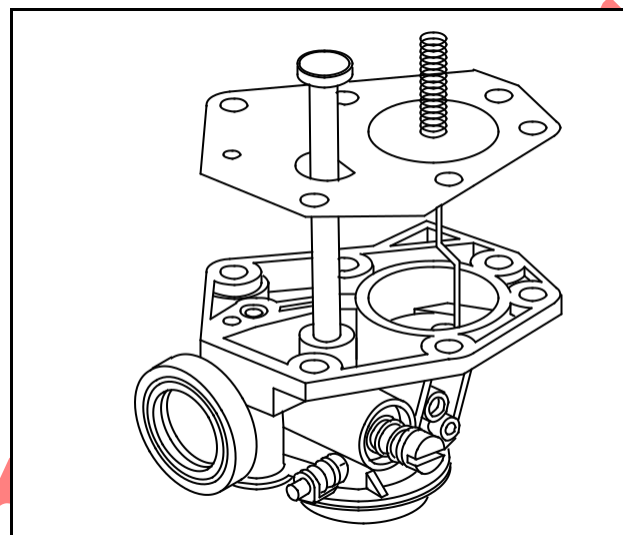

Fig. 163 - LOCATING DIAPHRAGM ON CARBURETOR
2. Holding carburetor body upside down, place diaphragm on body while guiding choke link thru hole for link, Fig. 163.